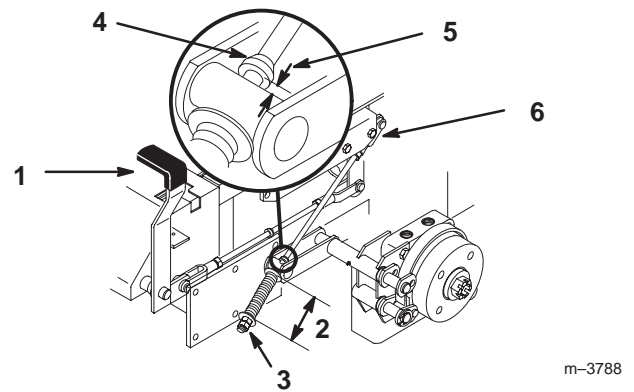

Figure 52
2. Measure the length of the spring. Measurement should be 2.75 in. (70 mm) between washers (Fig. 52).
3. If adjustment is necessary, loosen the jam nut below the spring and tighten the nut directly below the yoke (Fig. 52). Turn the nut until the correct measurement is obtained. Tighten the two nuts together and repeat on opposite side of unit.
6. Measure the distance between the trunnion roller and the collar on brake rod. Measurement should be 3/16–1/4 in. (5–7 mm) (Fig. 52).
7. If adjustment is necessary, loosen the jam nut directly below the yoke. Turn the bottom rod until the correct measurement is obtained (Fig. 52). Tighten jam nut at yoke